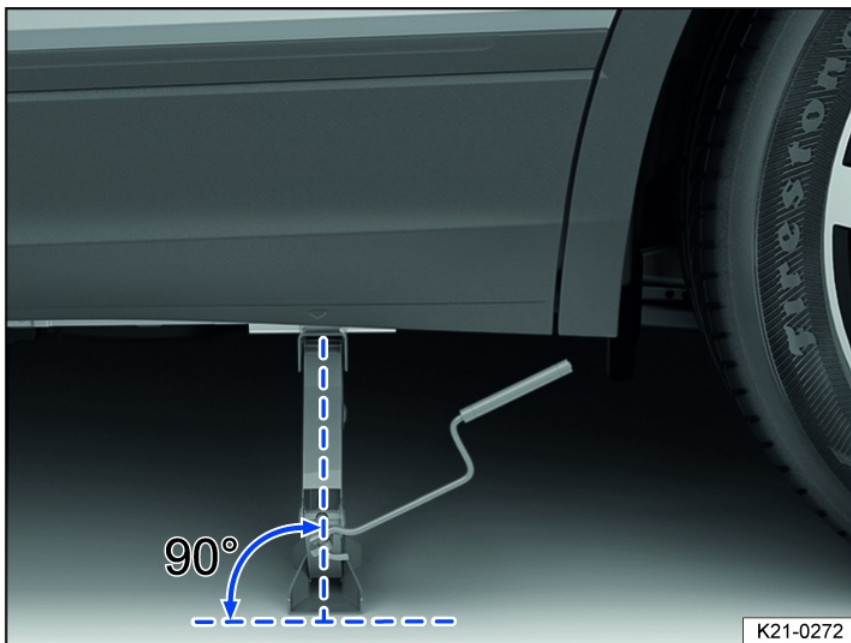
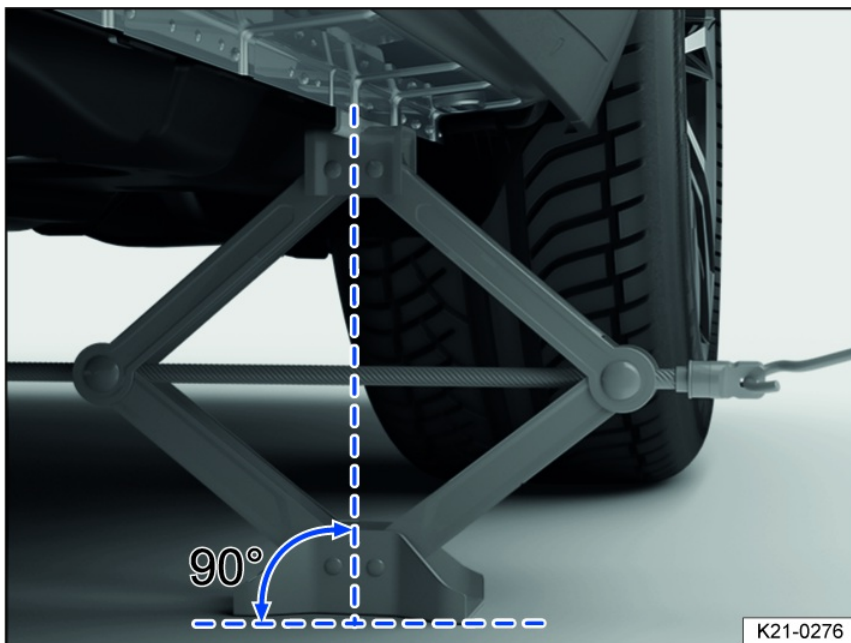

Fig. 220 Correct jack setup.
Fig. 221 Jack is positioned on the left side of the vehicle at the rear.
4. Make sure the entire base of the jack is seated securely on the ground and that the base of the jack is located exactly directly below the lift point fig. 220 and fig. 221.
5. Straighten the jack and continue cranking the claw on the top of the jack upward until the claw is positioned on the jacking point under the vehicle fig. 221.
- Only place the vehicle jack at the lift points described. The bracket on the vehicle jack must firmly grip the sill *fig. 221*.